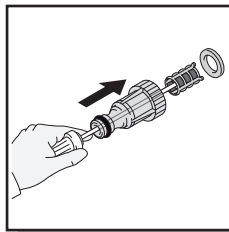

Fig.7
- The screen inside the clear adapter should be cleaned periodically. Insert a pen or pencil in small hole at the end of the adapter. The screen filter will slide out (Fig.7). Rinse it with clean water, then place it back in the adapter.